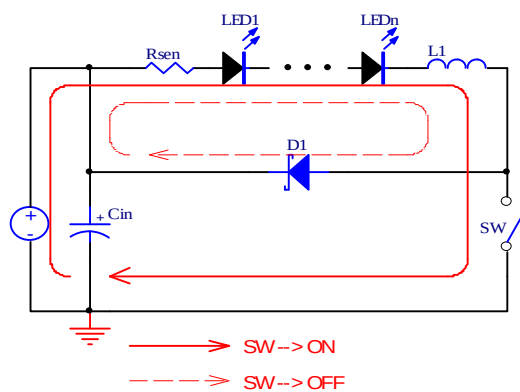

Figure 6 Power loop of MBI6650
9. When SW is on/off, the direction of power loop should keep the same way to enhance the efficiency. The sketch is shown as figure 6.